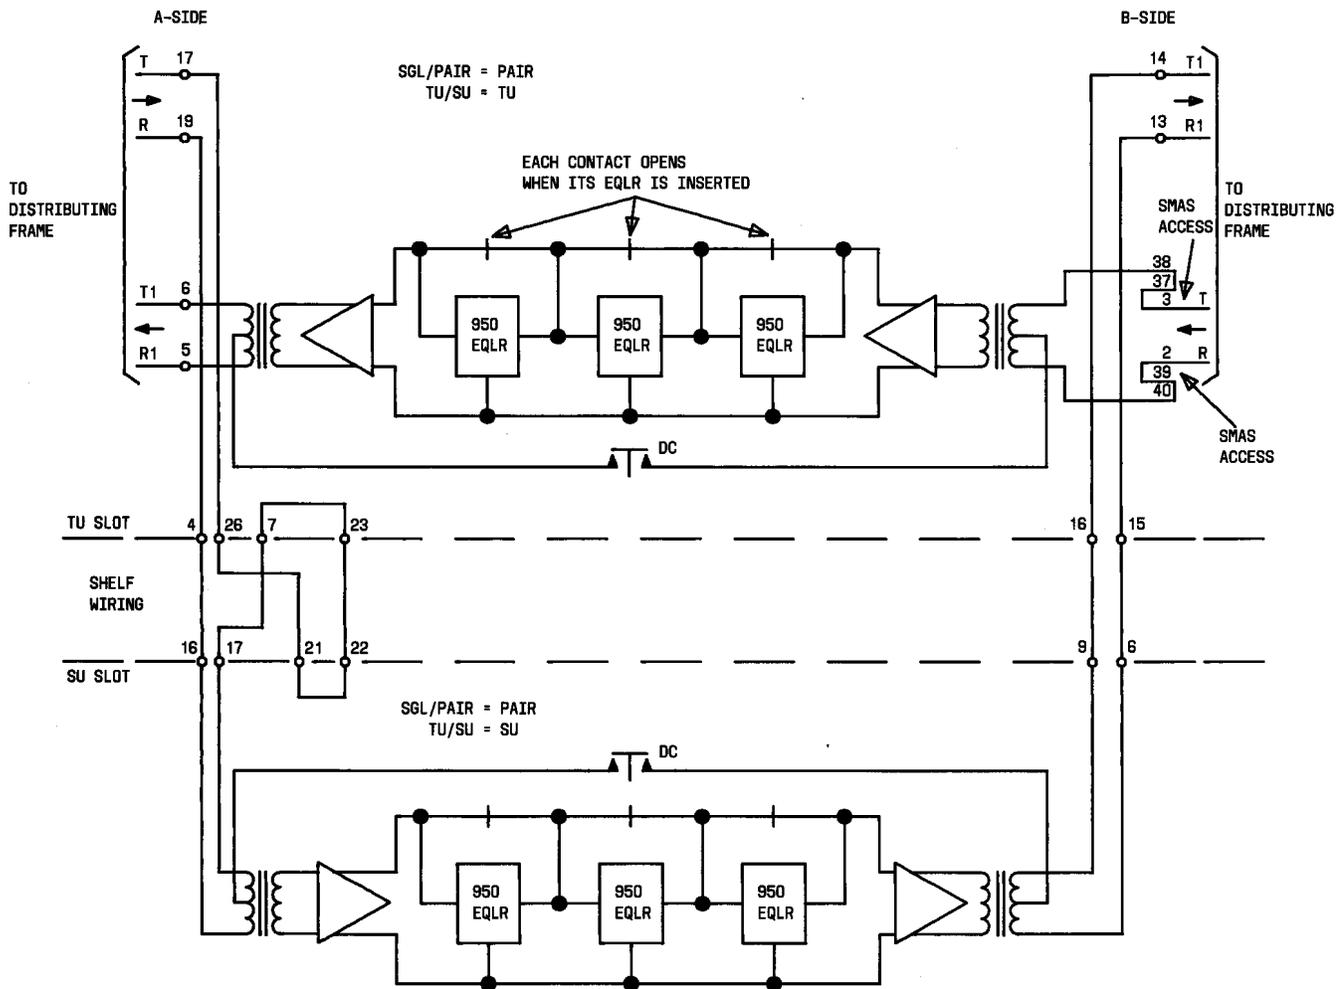

Fig. 3—Block Diagram of Two VFADEs in Double-Module Mounting
3.03 Application of two VFADEs in a double-module mounting is shown in Fig. 3. The transmission unit slot is used to equalize the B-to-A direction while the signaling unit slot equalizes the A-to-B direction. The SGL/PAIR switch on both units must be in the PAIR position and the TU/SU switch must correspond to the mounting slot being used.